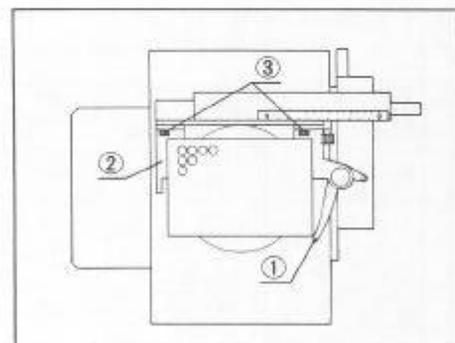

Fig. 21
Coincide the vessel center with the center of the X scale (55 mm position) by adjusting the position of the specimen holder ①, ②, then clamp in position with knobs ③. (Fig. 21)